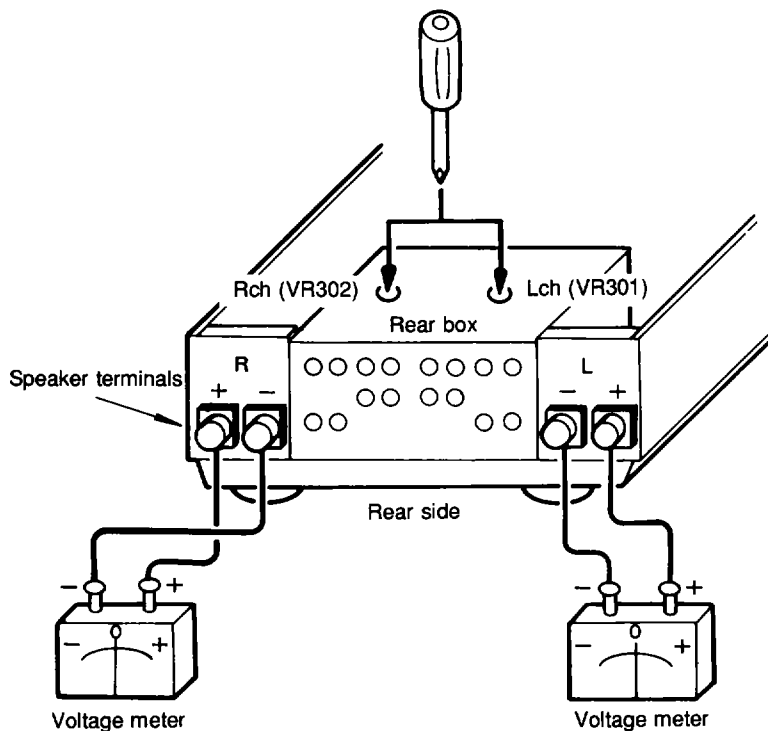

Fig. 1 DC offset voltage adjustment
6.1.1 Adjustment of DC Offset Voltage (Fig.1)